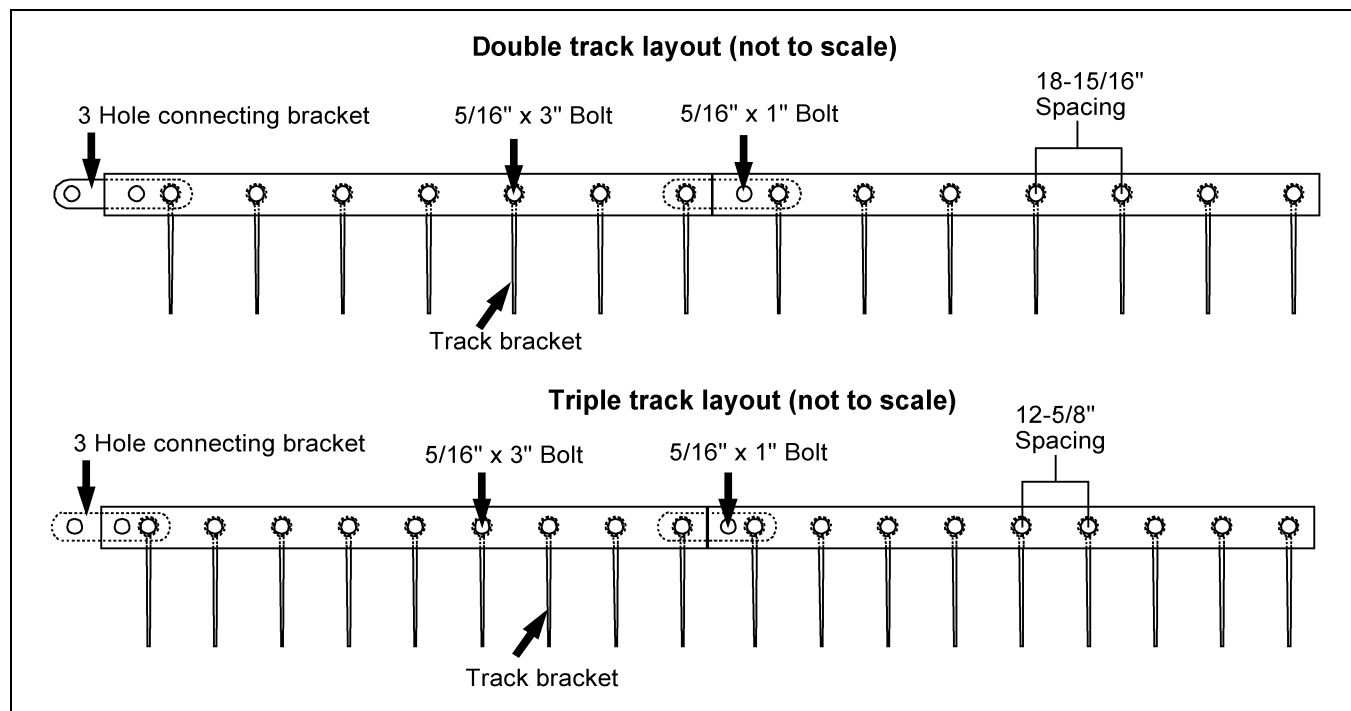

Figure 4A
9. Are augers 3" (for bins up to 30') or 4" (for bins 33' and larger) off the drying floor at bin wall? (See Figure 4AT on Page 40.)
**NOTE:** The wall track has two (2) different hole spacings: 18-15/16" on the double auger units and 12-5/8" on the triple auger units. (See Figure 4A.)